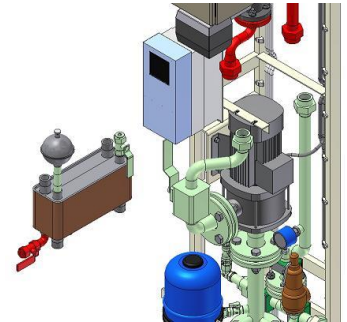

Figure 6.2-3
1. Drain both the primary circuit and the secondary circuit. The secondary circuit is drained through the V163 valve (marked yellow in Figure 6.2-3). The primary circuit is drained through the valves V301 and V302 (refer to the P&ID in Figure 4.2-2).
Disconnect the primary and secondary circuit connections (marked violet in Figure 6.2-3) from the unit. The connections can be opened with a box wrench.